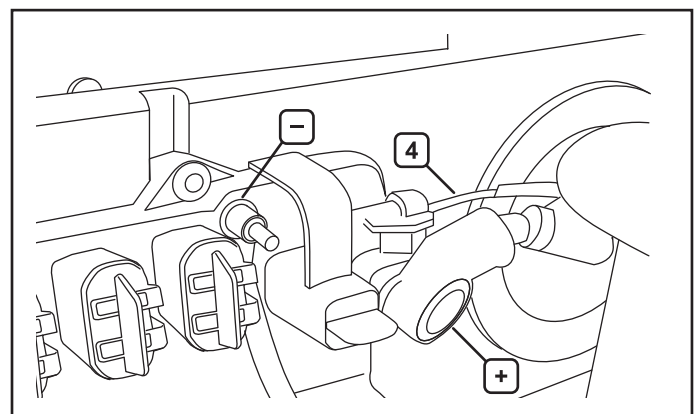

Figure 11.
Accessory Power for Switches or Other Controls: Orange and white wire (4) is found on the pulse bar, shown in figure 11.